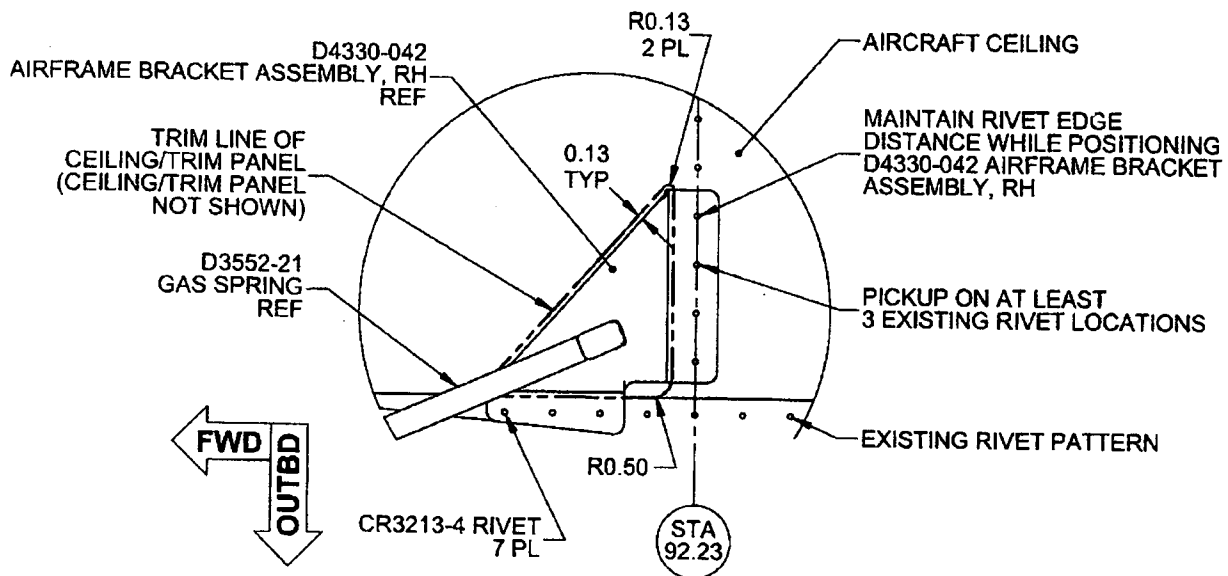
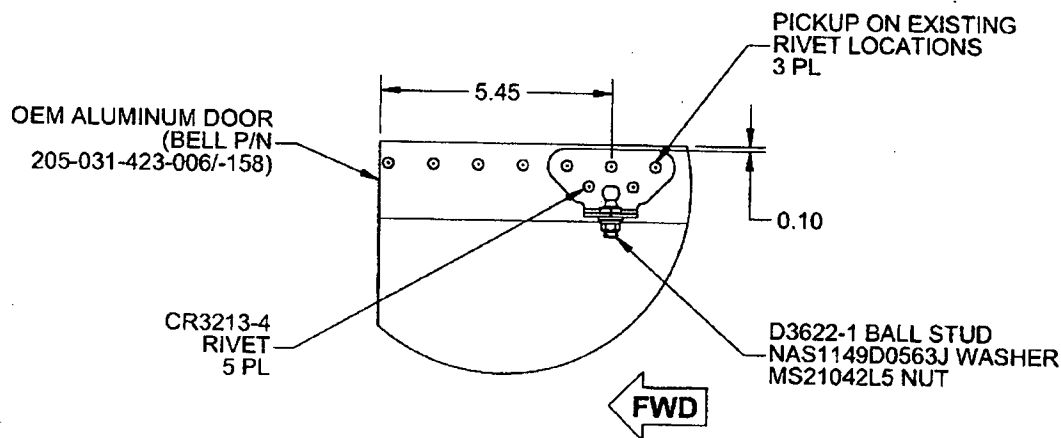
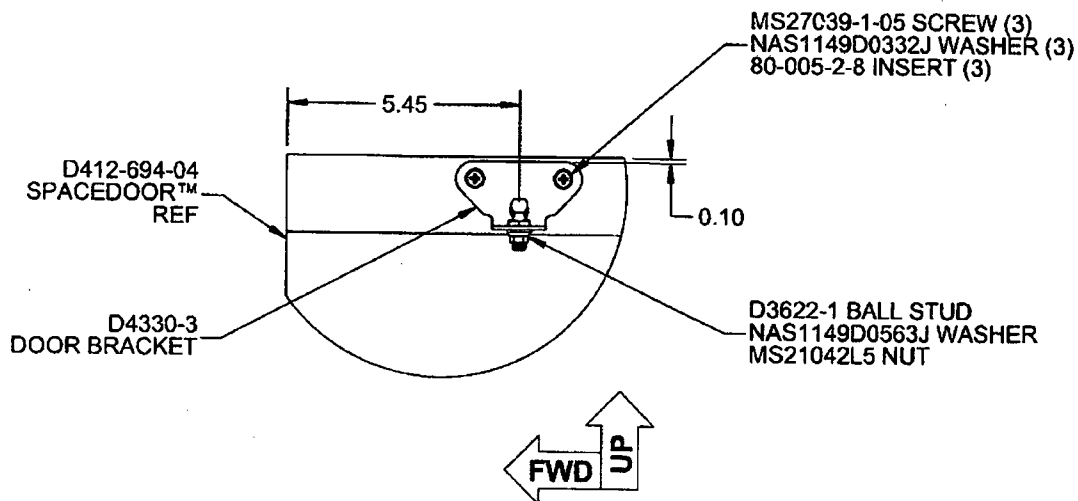
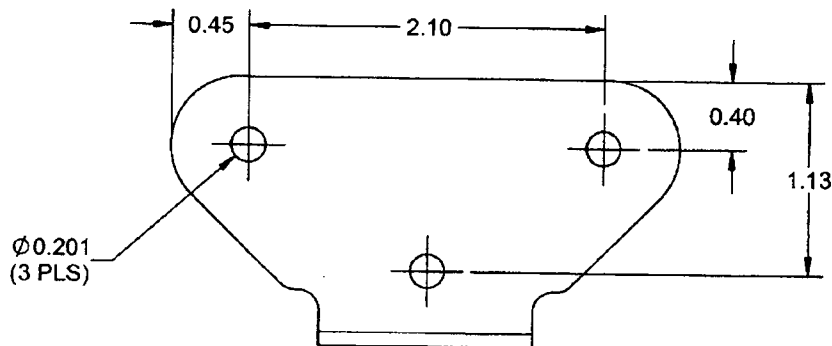

FIGURE 3: LOCATION OF D4330-042 AIRFRAME BRACKET ASSEMBLY
FIGURE 4: LOCATION OF D4330-3 DOOR BRACKET (OEM ALUMINUM DOOR)
FIGURE 6: LOCATION OF D4330-3 DOOR BRACKET (SPACEDOOR™)
FIGURE 7: LOCATION OF D4330-3 DOOR BRACKET MOUNTING HOLES (SPACEDOOR™)
3. Mark the location of D4330-3 Door Bracket on the Hinge Panel Door as shown in Figure 4.
8. Locate D4330-042 Airframe Bracket Assembly, RH on the aircraft ceiling per Figure 3. Transfer drill #30 ($\phi 0.129$ ") holes from the ceiling to D4330-042. Deburr holes.
9. Locate D4330-3 Door Bracket on the hinge panel door per Figure 4. Using Figure 5 as a guide for the approximate locations of the mounting holes, transfer drill 3x #30 ($\phi 0.129$ ") holes from the door skin to D4330-3 and drill 2x additional holes at locations shown in Figure 5. Deburr holes.
10. Apply a thin layer of Proseal 890 (or equivalent) to facing surface of the D4330-042/-3 brackets. Install the D4330-042 Airframe Bracket Assembly, RH using CR3213-4 rivets as shown in Figure 3. Install D4330-3 Door Bracket using CR3213-4 rivets as shown in Figure 4.
11. Pre-install the ceiling or trim panels that were removed in Step 1 and transfer mark contour of D4330-041 or -042 as shown in Figure 3 (SHT 5). Remove ceiling or trim panels and perform cutout to clear D4330-041 or -042. Touch-up finish of ceiling or trim panels cutout area in accordance with aircraft maintenance manual and re-install any ceiling or trim panels.
12. Install a D3622-1 Ball Stud on the D4330-3 Door Bracket using hardware specified in Figure 4.
3. Mark the location of D4330-3 Door Bracket on the Spacedoor™ as shown in Figure 6.
8. Locate D4330-042 Airframe Bracket Assembly, RH on the aircraft ceiling per Figure 3. Transfer drill #30 (Ø0.129") holes from the ceiling to D4330-042. Deburr holes.
9. Locate D4330-3 Door Bracket on the Spacedoor™ per Figure 6. Using Figure 7 as a guide for the approximate locations of the mounting holes, drill 3x #7 (Ø0.201") holes in D4330-3 and the inner door skin. Enlarge holes in Spacedoor™ inner skin to 9/16" (Ø0.5625").
11. Apply a thin layer of Proseal 890 (or equivalent) to faying surface of the D4330-042/-3 brackets. Install the D4330-042 Airframe Bracket Assembly, RH using CR3213-4 rivets as shown in Figure 3. Install D4330-3 Door Bracket using hardware as shown in Figure 6.
12. Pre-install the ceiling or trim panels that were removed in Step 1 and transfer mark contour of D4330-041 or -042 as shown in Figure 3 (SHT 5). Remove ceiling or trim panels and perform cutout to clear D4330-041 or -042.
13. Install a D3622-1 Ball Stud on the D4330-3 Door Bracket using hardware specified in Figure 6.